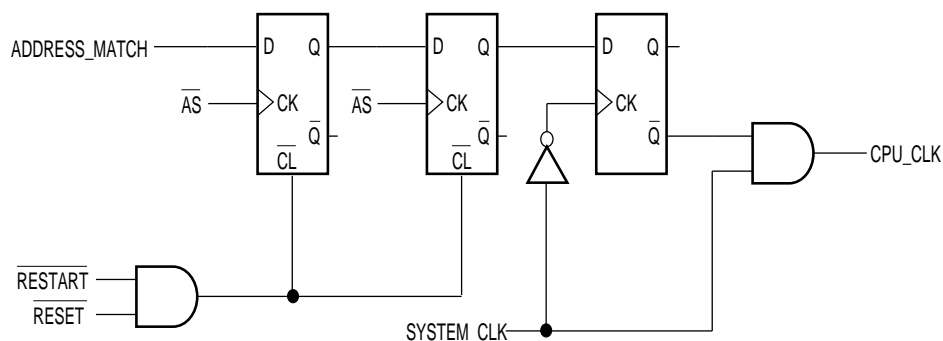
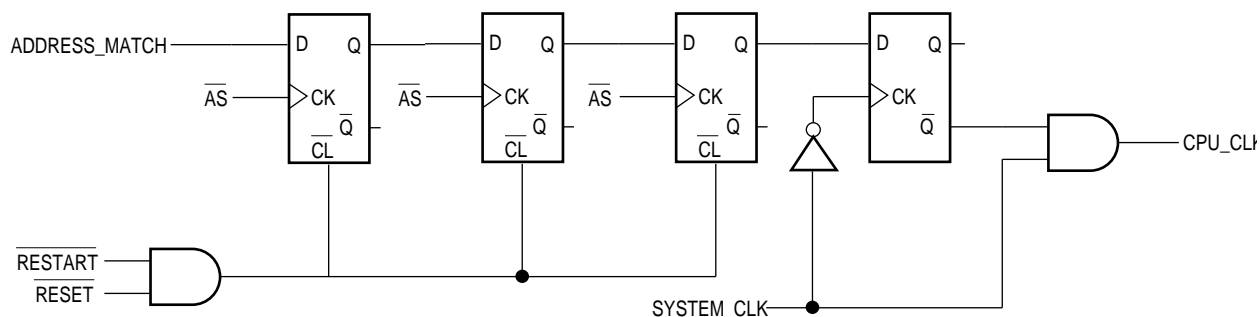

Figure 2. MC68SEC000 Low-Power Circuitry for 16-Bit Data Bus
Figure 3. MC68SEC000 Low-Power Circuitry for 8-Bit Data Bus
1. Externally detect a write to the low-power address. You select this address which can be any address in the 16 Mbyte addressing range of the MC68SEC000. A write to the low-power address can be detected by polling A23–A0, R/W, and FC2–FC0. When the low-power address is detected, R/W is a logic low, and the function codes have a five (101) on their output, the processor is writing to the low-power address in supervisor mode and user-designed circuitry should assert the ADDRESS_MATCH signal shown in Figure 2 and Figure 3.
2. Execute the STOP instruction. The external circuitry shown in Figure 2 and Figure 3 will count the number of bus cycles starting with the write to the low-power address and will stop the processor clock on the first falling edge of the system clock after the bus cycle that reads the immediate data of the STOP instruction. Figure 3 has one more flip-flop than Figure 2 because the MC68SEC000 in
7.0 MC68SEC000 AC ELECTRICAL SPECIFICATIONS — CLOCK TIMING (See Figure 2)
(Frequency = 0 to 20 MHz; GND = 0 V; $T_A = T_L$ to T_H ; see Figures 3 and 4)